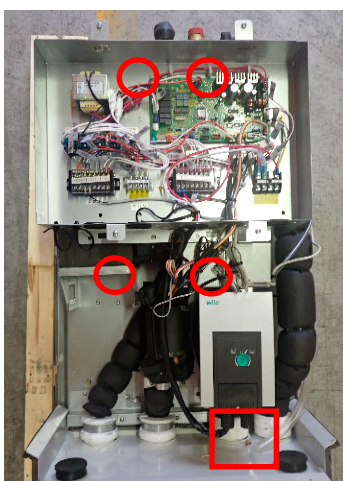

Fig19. Removing control box
(7) Plate heat exchanger
- ① Loosen the screws and remove the power connections.(□ mark, Fig.19)
- ② Remove 4 screws. Remove the control box.(○ mark, Fig.19)